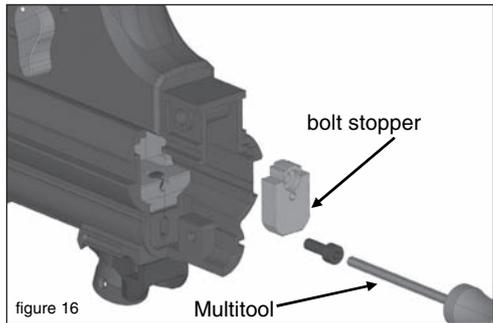

figure 16
6. Remove the breech fixing part with the multi-tool or by hand. (*figure 16*)